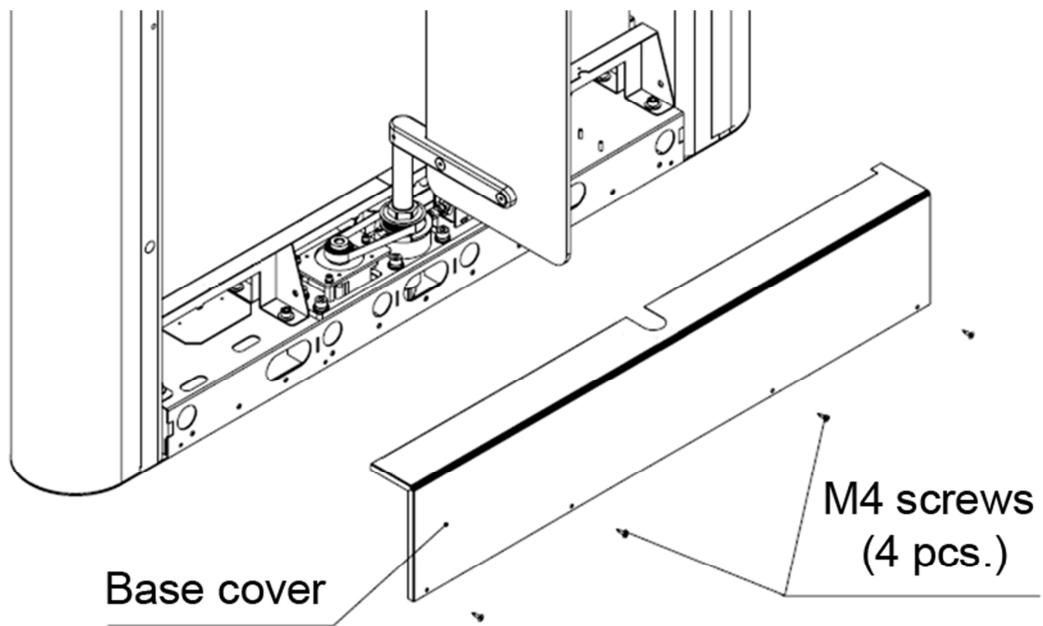

Fig. 1
3.2. In order to obtain access to necessary units of speedgate remove base cover by unscrewing the M4 screws (Fig. 1).